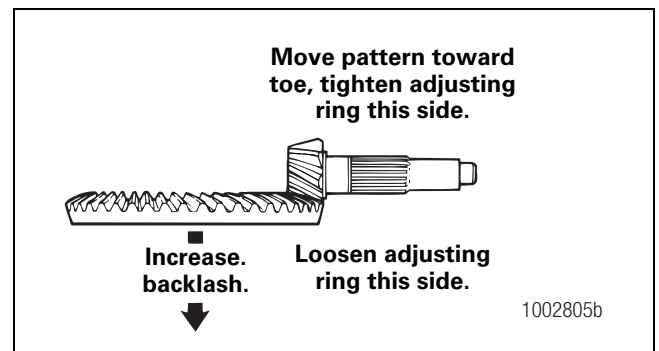

Figure 5.58
- B. Increase the backlash to move the contact patterns toward the heel of the ring gear teeth. Figure 5.58.